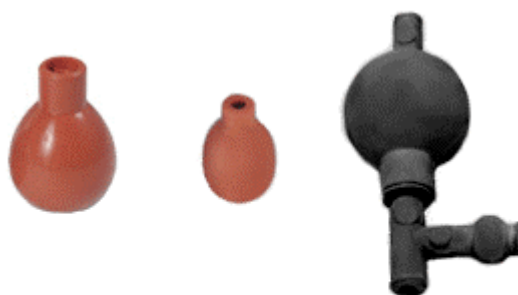

Figure 8: Different types of
Liquids are drawn into the pipette through a slight vacuum by using a pipette bulb (Figure 8). ***Never use your mouth to pipette.***
2. To fill a pipette, a rubber bulb (Figure 8) is used to provide suction to pull up the solution. Keep the tip of the pipette below the surface of the liquid. It is easier to draw up solution from a smaller, narrower container (i.e. 50 mL beaker) to avoid sucking up air. ***Avoid sucking liquid into the pipette bulb.***